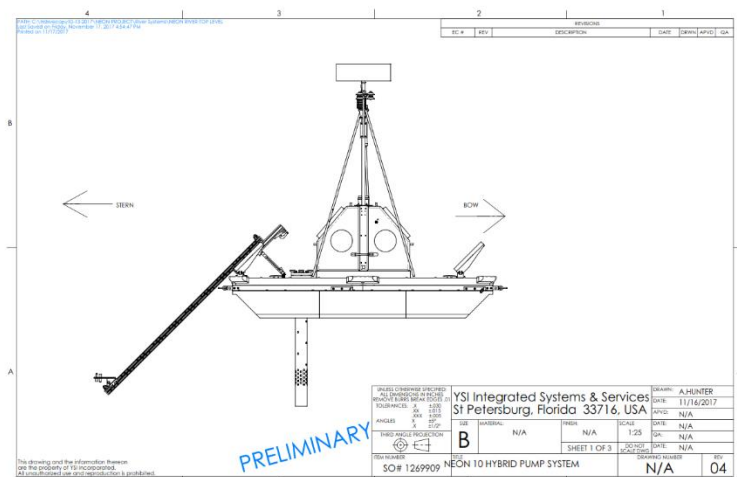

Figure 134. NEON.D07.LECO.DP1.20002 High Flow Events
**SCENARIO 3** | For imminent high-flow events (Figure 134), the site is likely not safe to access. Consult the NEON program Safety office and AIS SCI staff for guidance.